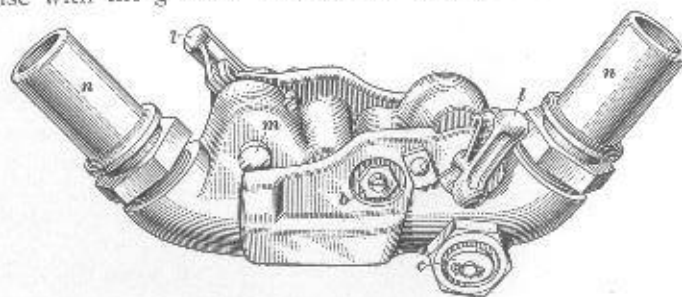
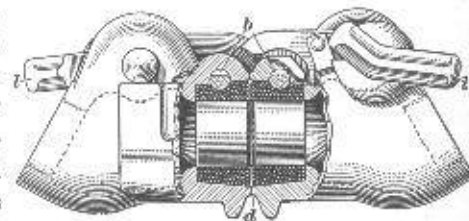
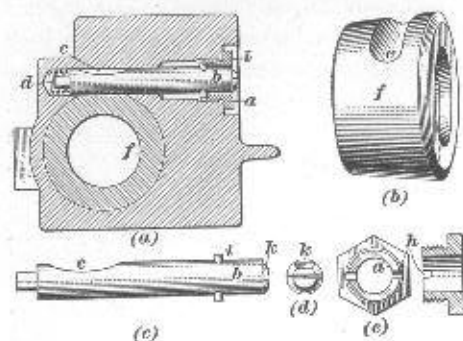

FIG. 8
FIG. 9
FIG. 10
8. Steam Hose Coupler.—A view of two steam hose couplers coupled together is given in Fig. 8, and a sectional view of them is given in Fig. 9. This coupler is known as the Positive Lock Steam Coupler. In the illustrations, *b* are brass bolts, one being placed in the top of each coupler head cross-wise with the gasket. The gravity trap *c* is furnished when
specified, but is not furnished otherwise on account of the tendency to leak steam. A drainage groove *d*, Fig. 9, about $\frac{1}{8}$ inch wide is provided across the narrow projecting metal
It will be seen in Fig. 9 that the iron boss on the coupler head encircles the gasket and is machined off so that it comes just flush with the face of the gasket
when the gasket is cold. When the couplers are coupled, the two iron bosses come squarely together with the cold gaskets barely touching each other so the gaskets cannot be crushed. Also, when the gaskets are cool any water in the hose can leak past the gaskets and escape through the drainage port *d*, Fig. 9.
10. Gasket-Retaining Feature.—The gasket-retaining feature of the Positive-Lock steam-heat coupler, Fig. 10, consists of a bushing *a*, a brass bolt *b*, and a brass spring *d*. The
To remove the gasket from the Positive Lock Steam Coupler, Fig. 8, proceed as follows: By means of a screwdriver, a dime, a penny, or a heavy knife blade, push the locking bolt *b* well in until the cross-pin on the bolt is out of the groove *h*, Fig. 10, and turn the bolt half way around until the cross-pin again snaps into the groove *h*. The gasket can then be pulled out of the coupler head. If the coupler head is very hot, the gasket may be swelled until it is tight in the coupler head. However, as the coupler cools the gasket will shrink so that when the coupler head is cool enough the gasket will come out readily. In replacing the gasket, place it in the coupler head with the center of the groove *e*, Fig. 10, even with the center of the top of the coupler head. Then, press the bolt *b* in and turn it a half turn so as to lock the gasket in place.